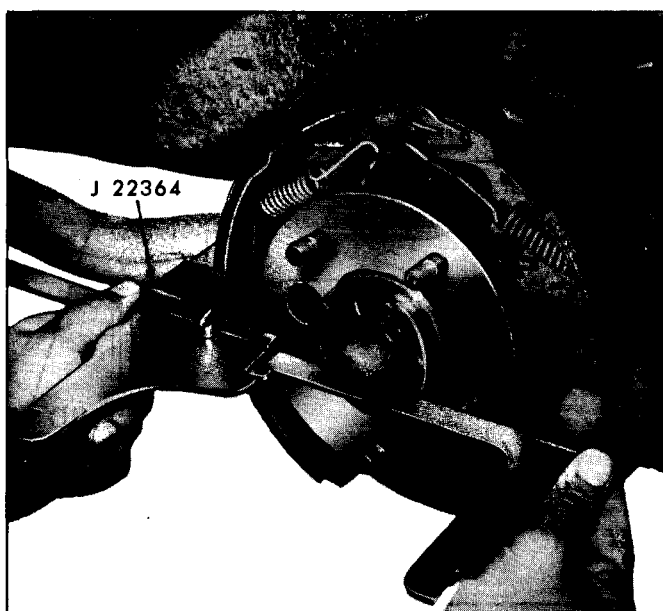

Fig. 5-14 Gauging Shoe to Drum Clearance
2. Remove ridge at open end of drum with #40 grit sandpaper, or equivalent. Adjust tool J 22364 to diameter of drum, then adjust brake shoes to fit opposite side of tool (Fig. 5-14).